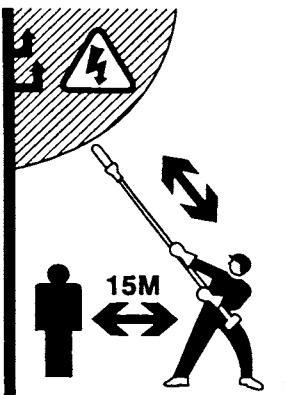

Fig.1-1
- Review the area to be trimmed. Look for hazards that could contribute to unsafe conditions. DO NOT operate unit if any wires(power, telephone, cable, etc.) are closer than 15M (50ft.) to any part of the operator or unit. (Fig.1-1)